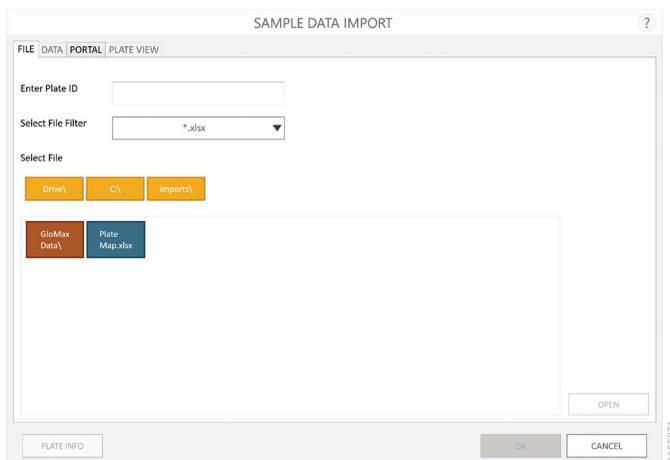

Figure 42. ‘Sample Data Import’ screen. First screen shown when importing a plate map into the GloMax[®] Software.
3. Tap the **Import** button located on the right side of the ‘Protocol-specific’ screen (Figure 41) to display the ‘Sample Data Import’ screen (Figure 42).